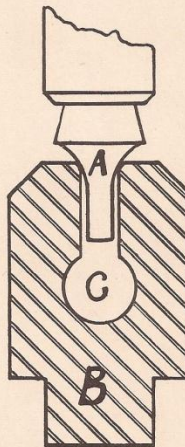

Fig. 1—Stump for Balance Calipers
Balance truing calipers are so constructed that the balance will be supported on the cones of the pivots as shown in Fig. 1 in which (A) is the conical portion of a balance pivot, (B) is the stump of the balance calipers (C) is a hole in the stump to allow freedom and to prevent the stump from becoming clogged with dirt which in time would mar and break the pivot.